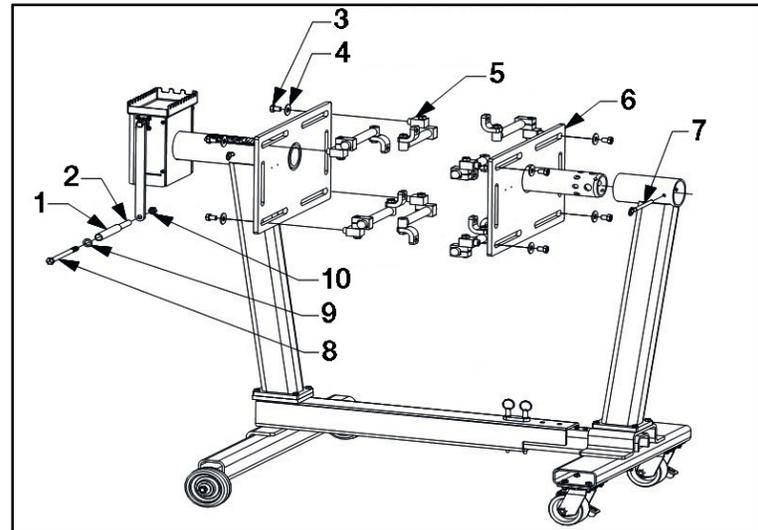

Fig. 7: Installing rotation handle and mounting plates
- 3 3/4"L, 1/2-13UNC Grade 8 cap screw (8)
- 4 1/2" Grade 9 USS flat washer (8)
- 5 Mounting arm (8)
9. Use (1) 1/2-13UNC grade 5 cap screw 7" long cap screw with (1) 5/8" 18GA flat washer and (1) 1/2-13UNC nut to fasten the Inner and Outer Handle Tubes to the Rotation Handle (Fig. 7).
10. Insert Detachable Mounting Plate into Front Post and insert Rotation Locking Pin through Post and Mounting Plate Rotation Locking Holes to hold Detachable Mounting Plate in place (Fig. 7).
11. Insert the Mounting Bracket Retention Blocks into the slots in the Mounting Plates and use (8) 1/2-13UNC grade 8 cap screws 3/4" long and (8) 1/2" grade 9 USS flat washers to fasten them to the Mounting Plate (Fig. 7).